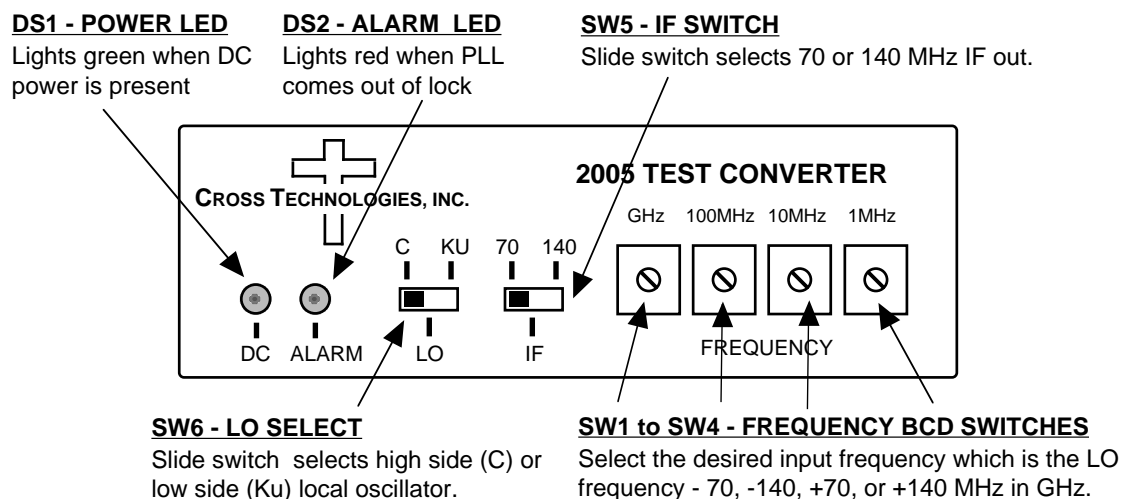

FIGURE 2.1 2005-22 Front Panel Controls and Indicators
2.2 Front Panel Controls/Indicators - Figure 2.1 shows front panel controls and indicators for the 2005-22.
2. Select either C or KU band (SW6) and either 70 or 140 MHz IF (SW5) using the front panel switches (Figure 2.1).
6. Set BCD switches, SW1 to SW4, to the desired frequency (Figure 2.1).
7. Be sure DS1 (green, DC Power) is on and DS2 (red, Alarm) is off (Figure 2.1).
2.5.3 Selecting High Side LO (-C), Low Side LO (-Ku), 70MHz or 140 MHz Input - To select High Side LO, Low Side LO, 70MHz or 140 MHz Input set SW5 and SW6 on the front panel (see Figure 2.1) to the desired position.